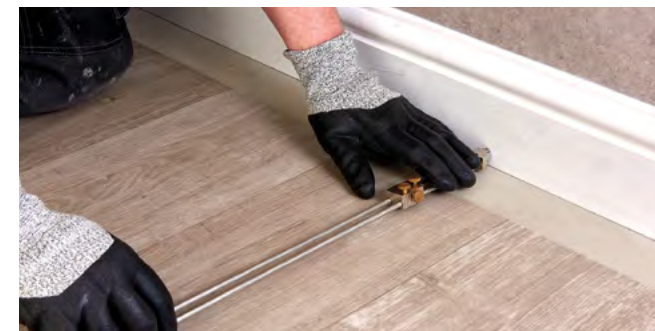

Figure 6.2 Scribing the wall profile
- ▶ Holding the scribers vertically and square to the edge, trace the wall profile onto the face of the sheet (Figure 6.2).